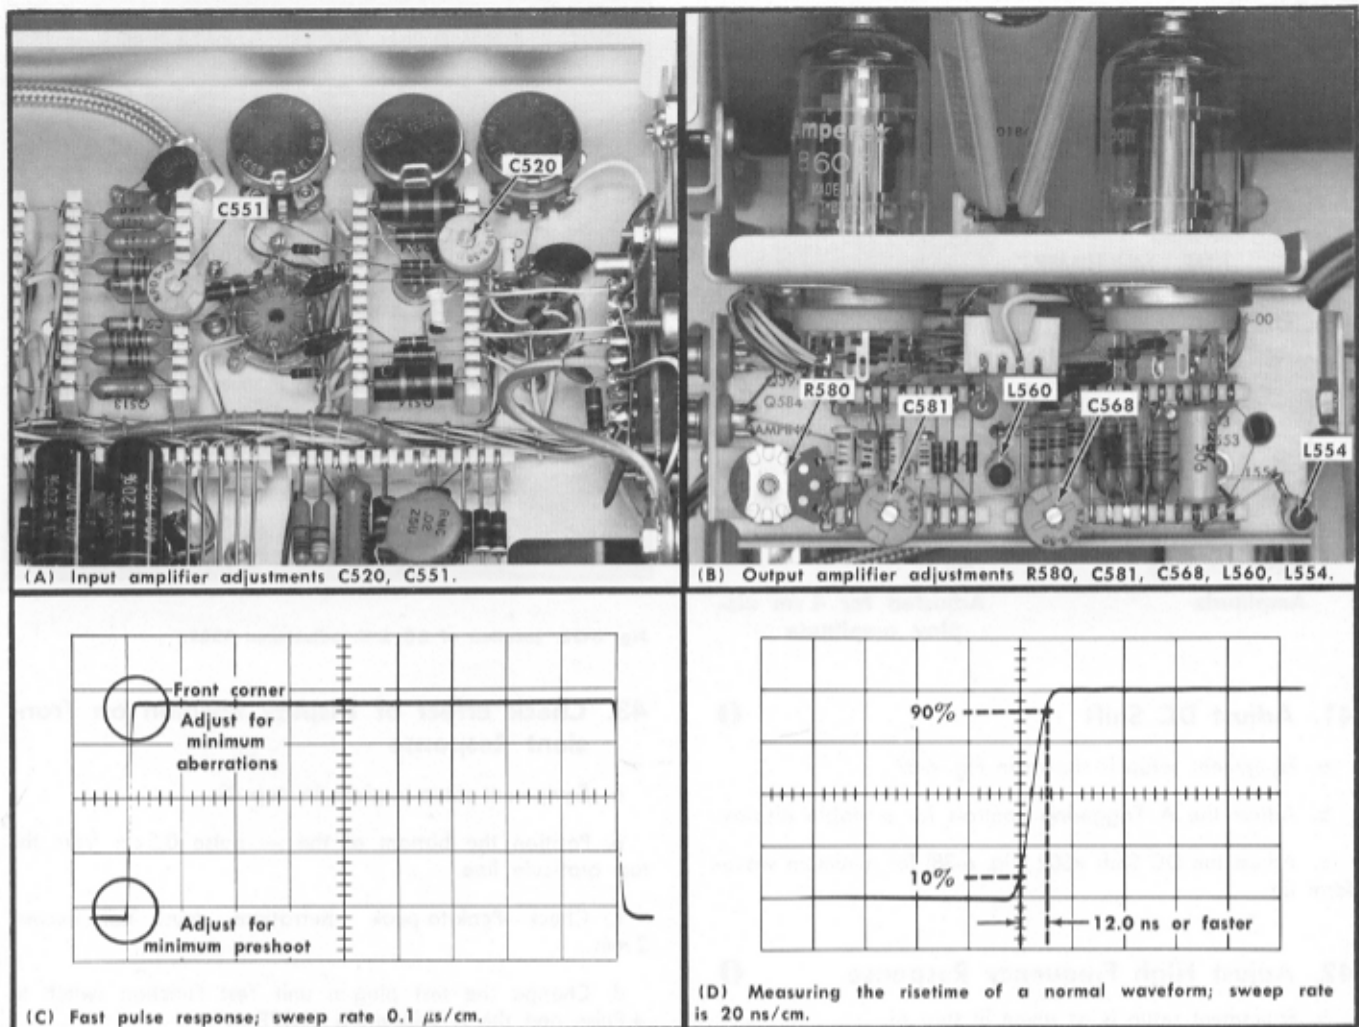

Fig. 6-39. Vertical amplifier compensation checks and adjustments.
- Adjust for optimum high frequency response as follows: (Fig. 6-39).